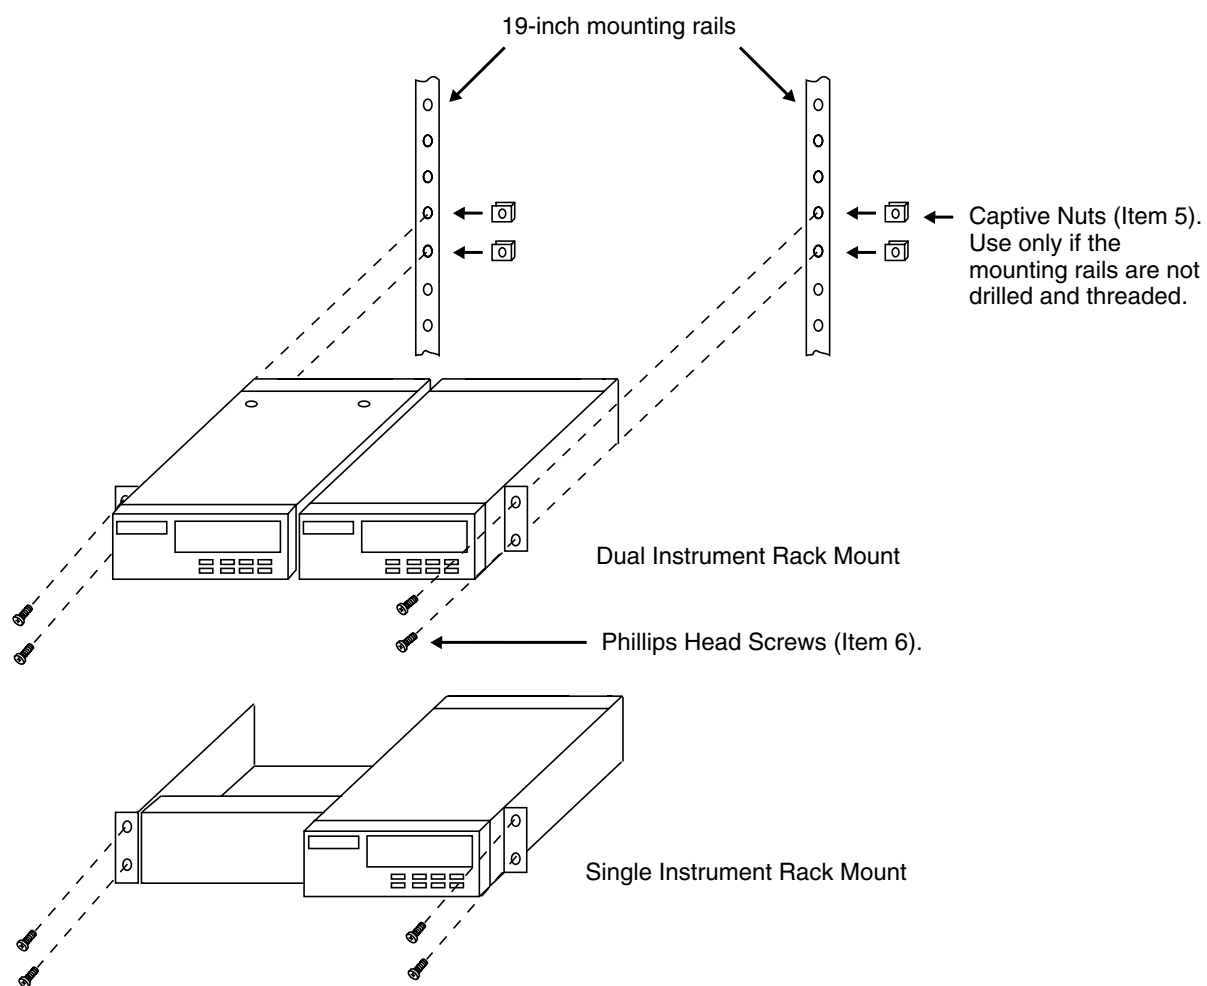

Figure 2. Mount the Assembly into the 19-inch Equipment Rack
7. Refer to Figure 2 for steps 7 through 8. Slip the captive nuts (Item 5) onto the mounting rails. If the mounting rails already have drilled and threaded holes, this step is not necessary.